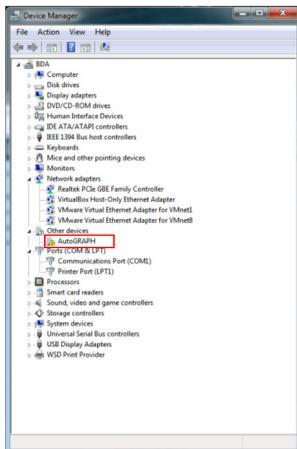

Fig.3. New equipment.
- when connecting the converter to a PC, the system will automatically found new equipment (Fig.3);